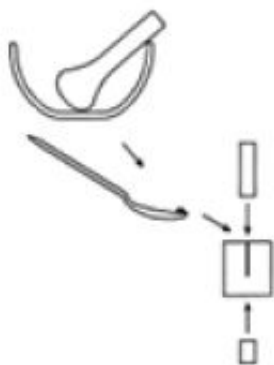

Fig. 3
8. After that, clamp the press into a vice as shown in Fig. 3, thereby pressing against the dies so that the substance is pressed into a compressed pellet.